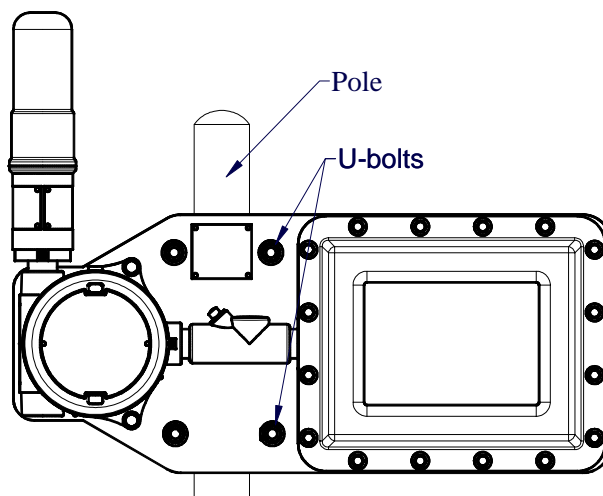

Figure 23 Typical NEMA7 with Transceiver
1. Attach the mounting plate assembly to a pole with two U-Bolts secured through the 7/16” rectangle holes of the mounting plate base (Figure 23).
- Attach the mounting plate assembly to a pole with two U-Bolts secured through the 7/16" rectangle holes of the mounting plate base (Figure 23).